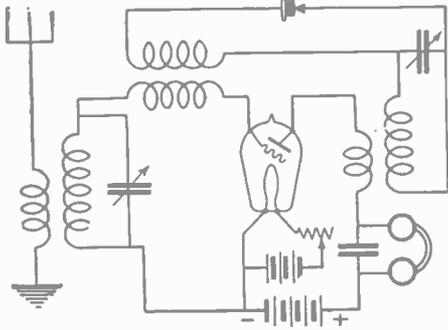

Fig. 1. A one-tube reflex receiver using a crystal for detector. Volume is good and distance greatly increased by the addition of the reflex system.
The most effective method for practically reducing the antenna resistance is, of course, through regeneration. Using a feed-back coil in the plate circuit of a single tube reflex is very unsatisfactory, because the tendency of the tube to oscillate at the high incoming frequencies makes the set very unstable. Using a set constructed as in Fig. 1, great care must be taken to keep tuner (A) and transformer (B) out of inductive relation to insure stability even though the damping effect of the tuned crystal circuit tends to make the set more stable. Capacity between carelessly arranged wires will often